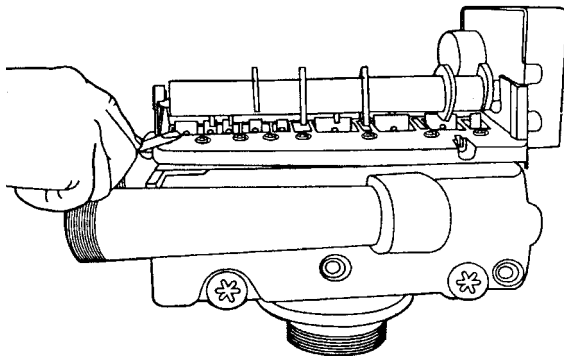

Figure 11
3. Remove cover and with screwdriver, relieve tank pressure by pushing open valve No. 7 (rear flapper) on control as shown (Figure 11).